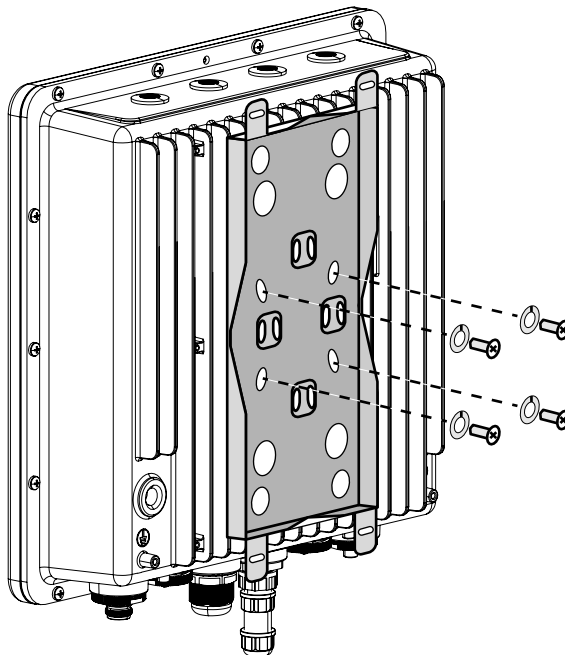

Figure 2-4. MA27102A Vertical Bracket Mounting
2. Ensure that the bracket is oriented with the V-groove facing outward as illustrated in Figure 2-4.